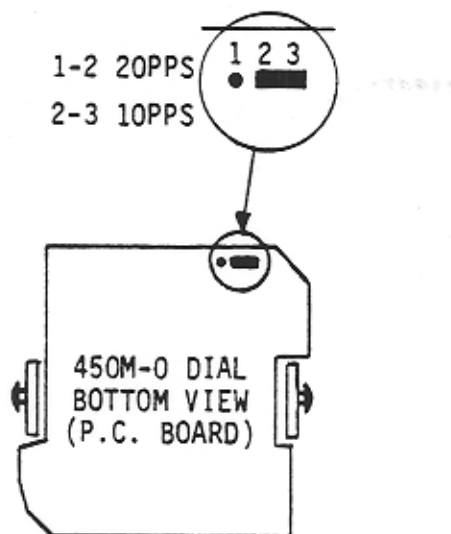

Figure 3 - Pulsing Speed Strapping Location
Check for N relay operation on COU (See figure 3. Figure 13 in section -1 shows location on card. N relay not operating, replace COU card. Still not operating; replace CPU-5A.
4.11 The TIE 450M-0 dial comes from the factory arranged for 10 pulses per second (PPS) outputting. The pulsing rate may be changed to 20 PPS by moving a small pin connector on the dial P.C. board. Figure 3 shows the location of the connector.
n) Reconnect the loudspeaker leads (see figure 3 in section -2) to the S1/S2 terminals on the HANU board.